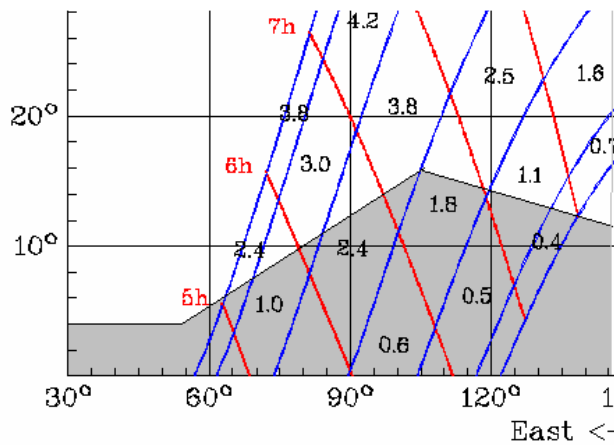

Fig. 2: Example of shading for an east facing vertical surface.
- Lightly shade area under horizon line (See Fig. 2.)
- Table 2 is an example using the shading in Fig. 2.